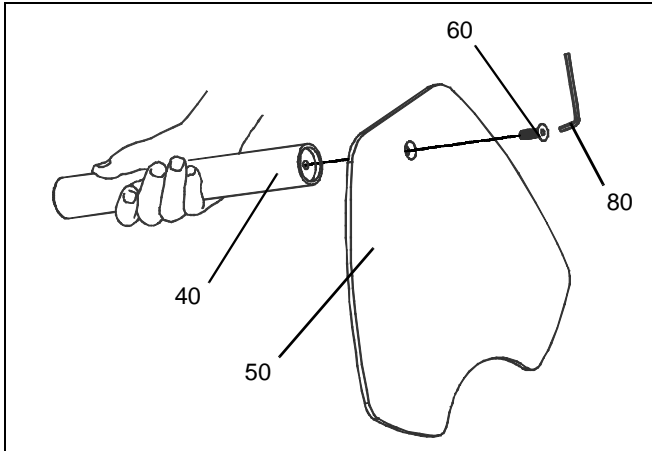

Figure 2: Assemble Pole to Base
1. Assemble pole (40) to base (50) using one 3/8-16 x 1" flat head cap screw (60). (see Figure 2)
2. Slide clamp accessory (10) onto pole (40), and position in approximate height as base for existing array assembly. (see Figure 2)
3. Tighten three button head cap screws to secure clamp accessory (10) to pole (40) using 5/32" hex key (80).